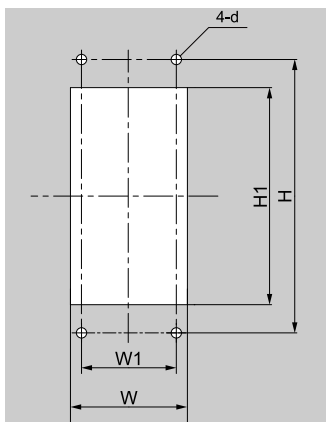

Figure 5.27 Internal/Flush-Mount Enclosure Panel Cut-Out Dimensions
1. Use the dimensions in Table 5.15 and Figure 5.27 to cut an opening in the control panel for the keypad.